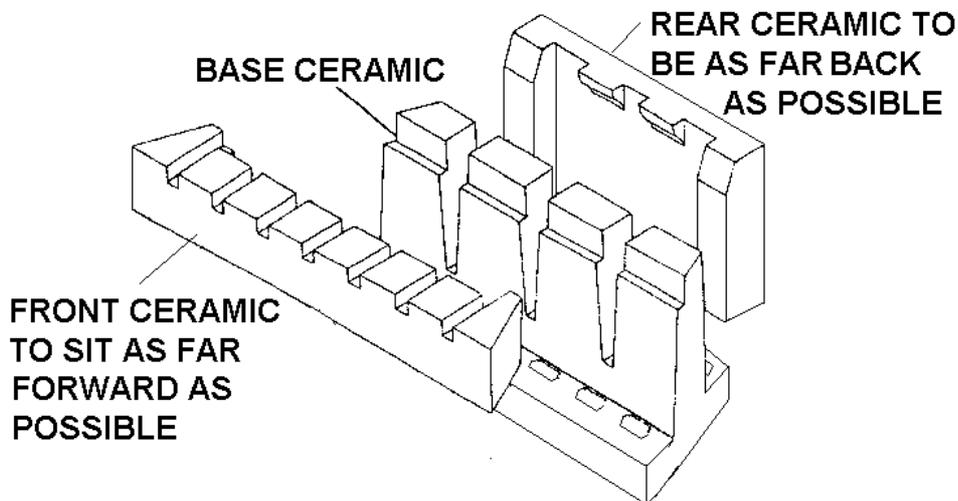

Figure 14
- 1 Fit the ceramic pieces as shown in Figure 14.